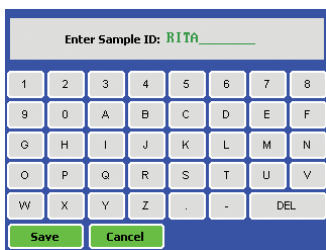

Figure 6. You may name your sample from the Sample ID screen.
4. **Optional:** Touch **Sample ID** to name your sample. Using the keypad, enter the sample name into the name field (Figure 6). You can enter a maximum of 10 characters. Touch **Save** to save the sample ID.